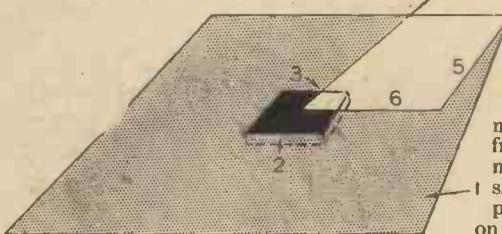

Fig. 1.—How the aeroplane approaches the landing field and directional aerials.
They set out with the idea that it would be much better for a pilot to see the aerodrome as he approaches it, and this is how it can be achieved. The aeroplane (4) is in position A while approaching the aerodrome. (Fig. 1.)
aeroplane transmitter and the directional aerial on the ground; for example, in Position B, Fig. 1, and would need location before the system could be of use. This can be achieved in several ways.